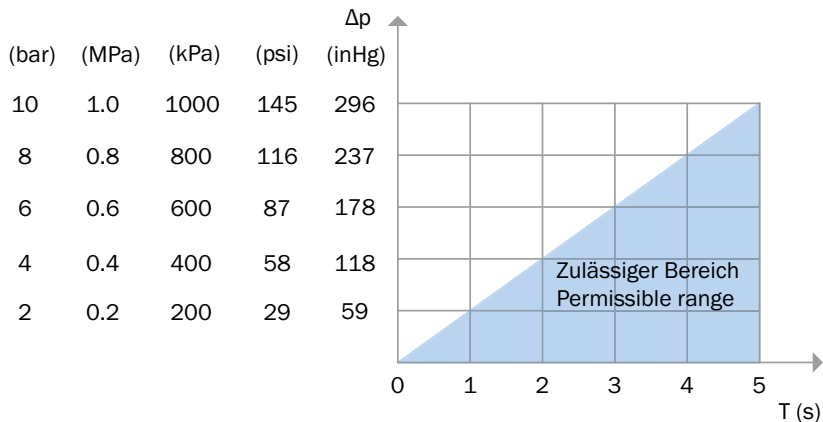

Figure 1: Minimum permissible period  $T$  with maximum pressure fluctuations  $\Delta p$
- Do not allow the device to heat up as a result of repeated compression of the compressed air. The minimum permissible period for pressure fluctuations  $\Delta p$  is specified in Figure 1.